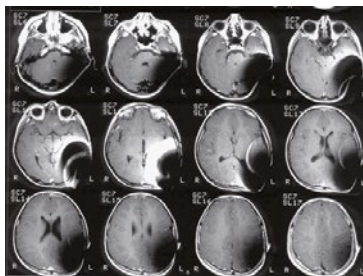

Figure 2: MR images obtained with a 1.5 T scanner (8-year-old child)
- Large image artifacts are to be expected. The size and shape of the image artifacts depend on the MRI sequence. The artifacts extend approximately 10 cm (3.9 in.) in radius around the device in a Spin Echo scan (refer to Figure 2).